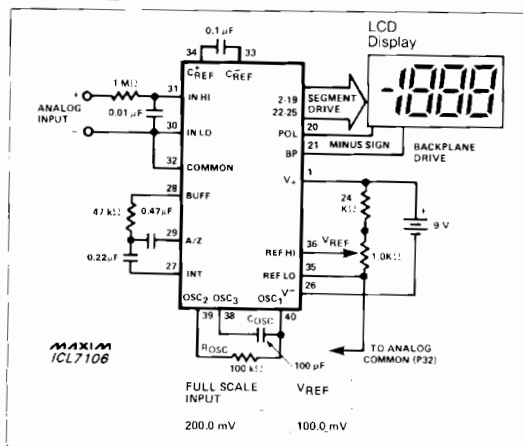
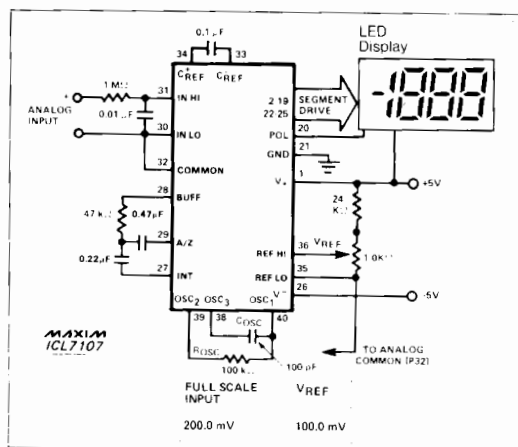

Figure 1. Maxim ICL7106 Typical Operating Circuit
Figure 2. Maxim ICL7107 Typical Operating Circuit
Note 3: Unless otherwise noted, specifications apply to both the 7106 and 7107 at TA = 25°C, fCLOCK = 48kHz. 7106 is tested in the circuit of Figure 1. 7107 is tested in the circuit of Figure 2.
(V+ = 9V; TA = 25°C; fCLOCK = 48kHz; test circuit - Figure 1; unless noted)
**Note 6:** Test condition is VIN applied between pin IH-HI and IN-LO through a 1MΩ series resistor as shown in Figures 1 and 2.
**Note 10:** 1MΩ resistor is removed in Figures 1 and 2.